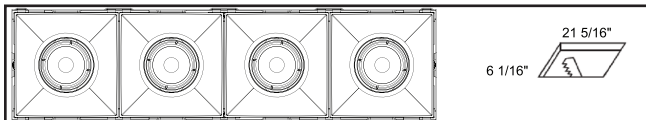

Figure 1.8.
- 4 Light: 21 5/16" X 6 1/16" (Figure 1.8)